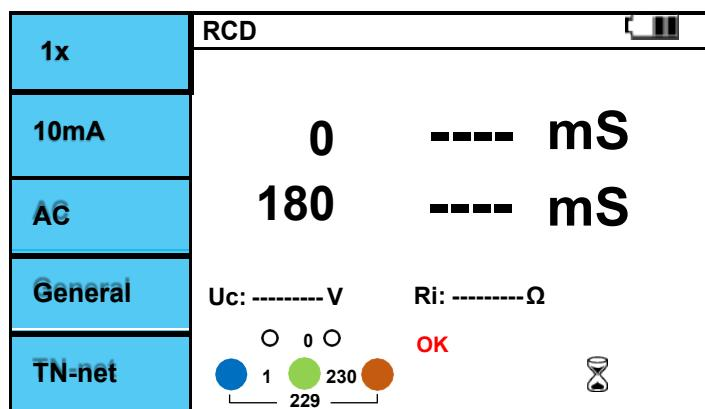

Figure 6.6.8 RCD / x1/2,x1,x2,x5 screen.
- IV. If there is no problem with the test lead connection, “OK” is displayed as shown in Figure 6.6.8